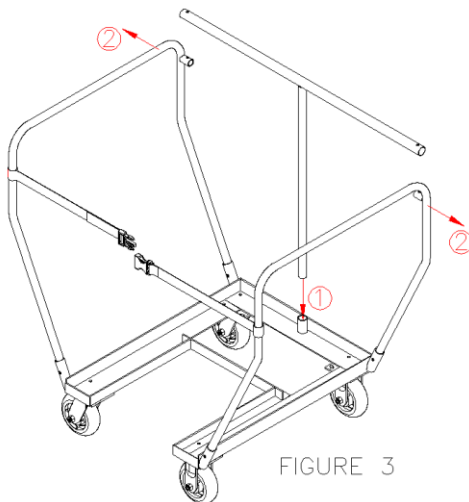

FIGURE 3
4. Insert the T-Handle into the Base first. Then gently pull out on the back of the left and right Handles allowing the T-Handle to slide over the Handle mounts (See Figure 3). Make sure the hole in the T-Handle and Handle mount align.